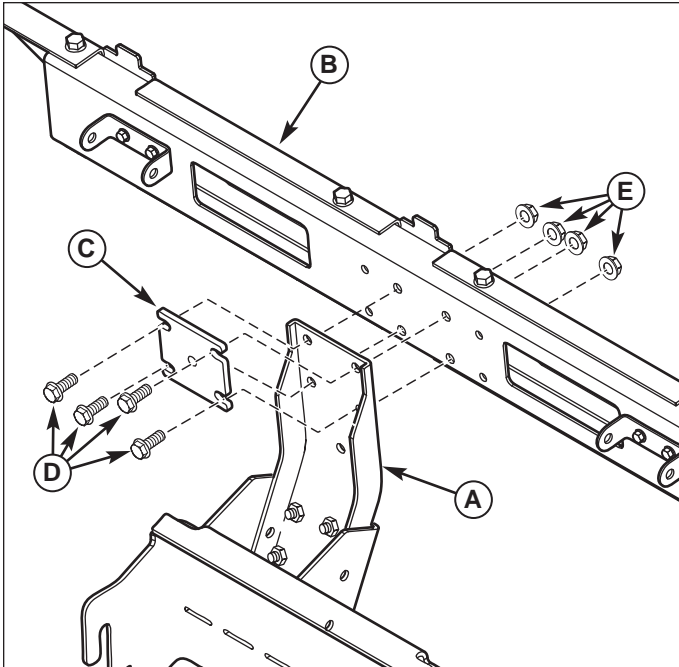

Figure 9. Install Bag and Cover Support
1. Install the bag and cover support (B, Figure 9) to upright support (A) using reinforcement plate (C) and 3/8-16 x 1 capscrews (D) and 3/8-16 locknuts (E) as shown.